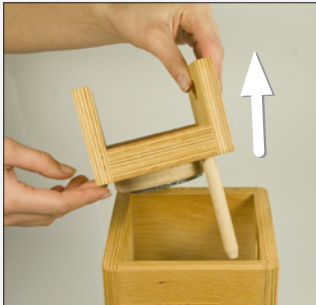

Figure 7
- Tighten the brake screw on the side opposite the adjusting wheel so that the wheel bracket can be adjusted easily, but the setting does not change by itself. The rubber ring may only press up against itself slightly (figure 7)
- Screw in the brake screw on the other side. Adjust the play of the adjusting wheel with the brake screw, the rubber ring may only press up against itself slightly (figure 7)